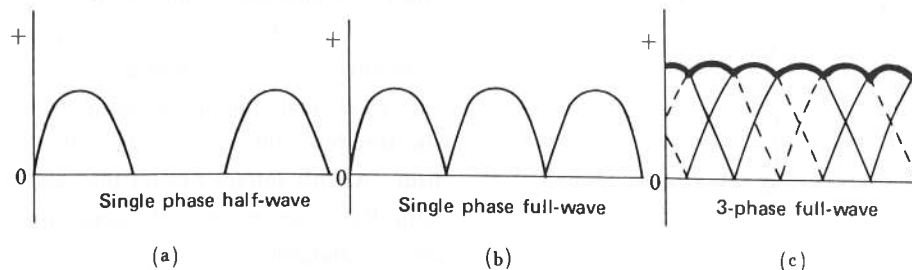

Fig. 1.5 Rectification Waveform
coil is stationary and the field coil rotates. The field rotor is wound with a coil. If direct current is applied through the slip ring, the field rotor is magnetized and forms the magnetic poles (N, S). The stators are wound with conductors (C, C') and generate alternating current by rotating the rotor. The generated AC is rectified by the diode (D) into DC, which is then charged to the battery. If ordinary DC is rectified by the diode, it takes on various waveforms — depending upon the system as shown in Fig. 1.5. Tractor generators take on the waveform (C) since 3-phase AC undergoes full-wave rectification.